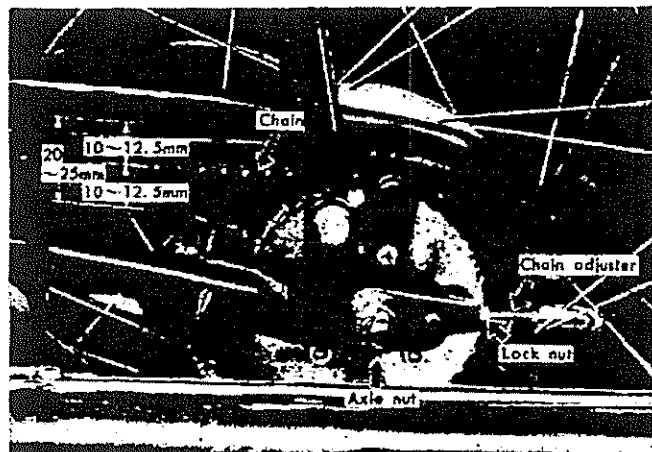

Fig. 14
- a) Chain adjustment is correct when chain slack is approximately between 10 mm (3/8") to 15 mm (5/8") up or down by standing up the mainstand. (Fig. 14)
- b) To adjust, loosen rear axle nut and flange collar nut, and then adjust with the chain adjusters on the ends of axle, turning them back or forward an equal amount to keep correct alignment of chain wheels. (Fig. 14)